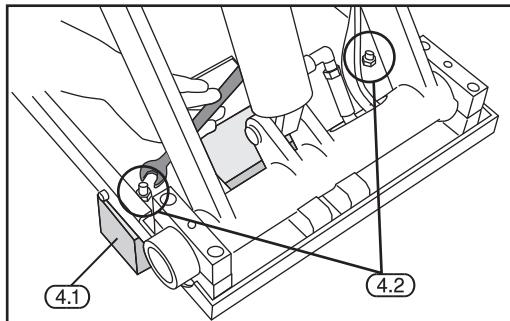

FIG.10
9.1 REMOVE LIFT FROM PALLET - FIGS. 10 - 13